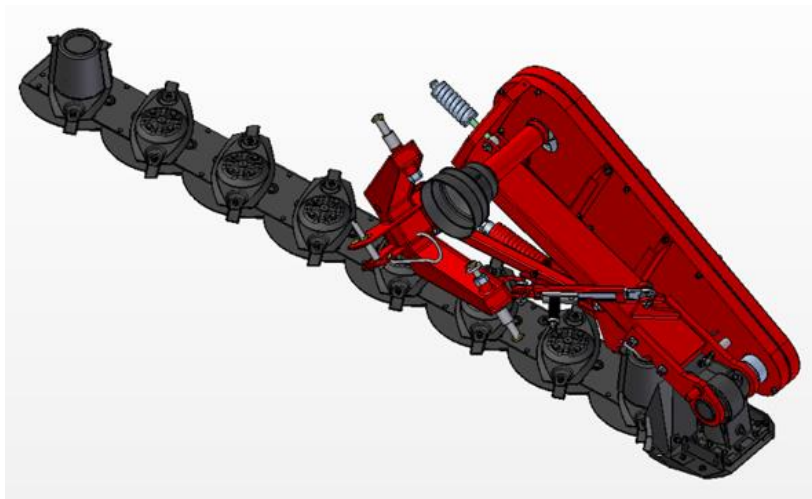

fig.C1
- open the case and lay the mower disc bar flat, as indicated in **fig.C1**;